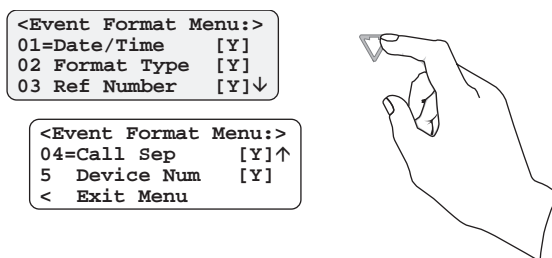

Figure 4-16 Event Format Menu Items
4. Press **2** for <Edit Format Menu:> items (Figure 4-16).